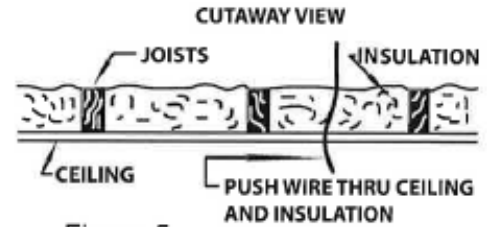

Figure 5
1. As an aid in locating, in the attic, the general area of the hole to be cut, a piece of wire, such as a straightened coat hanger, may be pushed up through ceiling near the center of the planned opening (relocate a few inches if it hits a joist). It should extend up through the attic insulation far enough to be easily located in the attic (See Fig. 5).